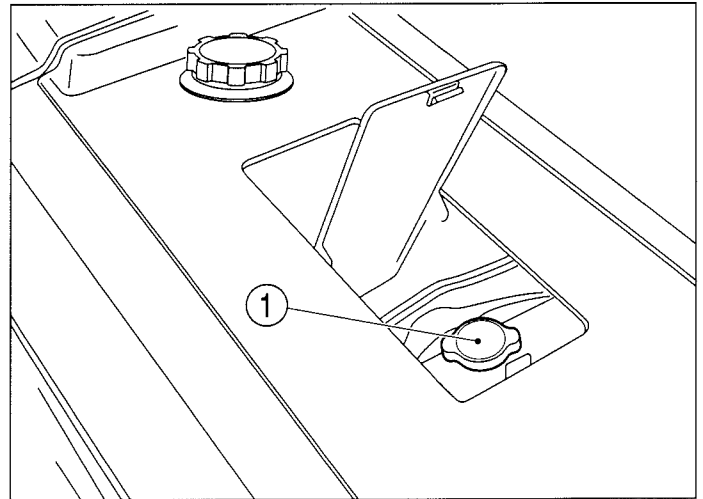

FIG. 81
FIG. 81: Cooling system is filled at factory with anti-freeze solution to protect the engine and radiator to -34°C (-30°F). Cooling level should be maintained to 12 mm ($1/2$ ") below the filler neck opening (1). Check coolant annually as a precaution against freezing.